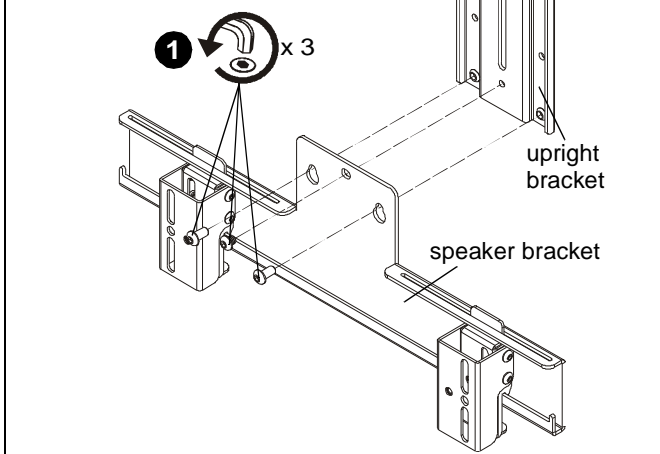

Figure 5
1. If already assembled, disassemble speaker bracket from upright bracket. (See Figure 5)